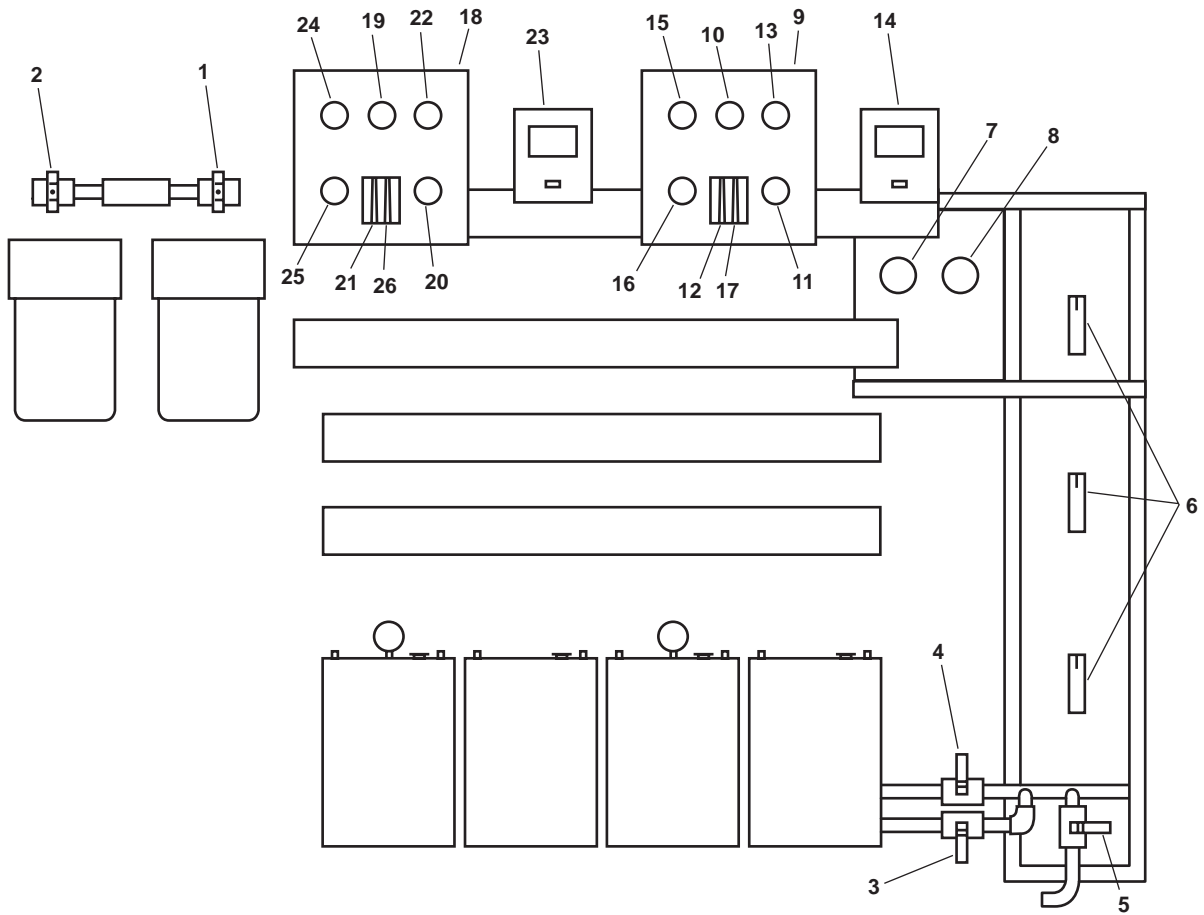

Figure 9. ROWPU System, Front View
- a. RO-V-7 (figure 9, item 1), backflow preventer supply valve.
- b. RO-V-6, (figure 9, item 2), backflow preventer discharge valve.
- c. RO-V-1-1 (figure 9, item 3), ROWPU 1 inlet sea water supply.
- d. RO-V-2-1 (figure 9, item 4), ROWPU 2 inlet sea water supply.
- f. RO-V-5 (figure 9, item 5), cleaning supply.
4. Align the media filter maintenance mode valves (figure 9, item 6) to the "BACKWASH" position as shown in figure 12.
6. Verify that the media filter INLET PRESSURE gauge (figure 9, item 7) does not exceed 45 PSI (3.1 bar).
7. Verify that the pressure differential between the media filter INLET PRESSURE gauge (figure 9, item 7) and the media filter OUTLET PRESSURE gauge (figure 9, item 8) does not exceed 20 PSI (2.4 bar).
8. BACKWASH the media filter for a minimum of 10 minutes, or until differential pressure between the media filter INLET PRESSURE gauge (figure 9, item 7) and the media filter OUTLET PRESSURE gauge (figure 9, item 8) is less than 5 PSI (0.3 bar).
10. Align the media filter maintenance mode valves (figure 9, item 6) to the "RINSE" position as shown in figure 12.
- d. RO-V-5 (figure 9, item 5), cleaning supply.
16. Align the media filter maintenance mode valves (figure 9, item 6) to the "NORMAL" position as shown in figure 12.
- a. RO-V-1-1 (figure 9, item 3), ROWPU 1 inlet sea water supply.
3. At ROWPU 1 flow control panel (figure 9, item 9), perform the following:
- a. Verify that the HIGH PRESSURE PUMP INLET pressure gauge (figure 9, item 10) indicates a minimum of 10 PSI (0.7 bar).
- b. Fully OPEN the SYSTEM HIGH PRESSURE REGULATOR valve, RO-V-1-3 (figure 9, item 11).
- c. Observe the BRINE flow meter (figure 9, item 12) until it displays a minimum reading of 1 gal/min (3.8 l/min) with few or no bubbles present.
- d. Verify that the SYSTEM OPERATION PRESSURE gauge (figure 9, item 13) does not rise above 50 PSI (3.4 bar).
4. At the ROWPU 1 system controller (figure 9, item 14), perform the following:
5. Verify the following conditions at the ROWPU 1 flow control panel (figure 9, item 9):
- a. The BRINE flow meter (figure 9, item 12) displays a minimum flow reading of 4 gallons (15.1 liters) per minute with no bubbles present.
- b. The BRINE DISCHARGE PRESSURE gauge (figure 9, item 15) indicates less than 15 PSI (1 bar).
- c. The PRODUCT WATER OUTPUT PRESSURE gauge (figure 9, item 16) indicates approximately 0 PSI (0.0 bar).
- d. The SYSTEM OPERATION PRESSURE gauge (figure 9, item 13) indicates less than 50 PSI (3.4 bar).
- e. The PRODUCT WATER flow meter (figure 9, item 17) indicates less than 1 gallon (3.8 liters) per hour.
6. Allow the system to operate in this configuration for approximately two minutes. Ensure that all gauges stabilize, and most of the air is purged from the system as indicated by a fluid stream with few or no bubbles flowing through the BRINE flow meter (figure 9, item 12).
- 7. At ROWPU 1 flow control panel (figure 9, item 9), slowly increase system pressure by rotating the SYSTEM HIGH PRESSURE REGULATOR valve, RO-V-1-3 (figure 9, item 11) in the INCREASE direction until the SYSTEM OPERATION PRESSURE gauge (figure 9, item 13) indicates 400 PSI (27.6 bar).
- 8. Allow the system to operate in this configuration for approximately two minutes. Ensure that all gauges stabilize and that most of the air is purged from the system as indicated by fluid streams with few or no bubbles flowing through the BRINE flow meter (figure 9, item 12) and the PRODUCT WATER flow meter (figure 9, item 17).
9. At ROWPU 1 flow control panel (figure 9, item 9), slowly increase system pressure by rotating the SYSTEM HIGH PRESSURE REGULATOR valve, RO-V-1-3 (figure 9, item 11) in the INCREASE direction until the SYSTEM OPERATION PRESSURE gauge (figure 9, item 13) indicates 650 PSI (44.8 bar).
10. Allow the system to operate in this configuration for approximately two minutes. Ensure that all gauges stabilize, and that all air bubbles are purged from the system as indicated by solid fluid streams flowing through the BRINE flow meter (figure 9, item 12) and the PRODUCT WATER flow meter (figure 9, item 17).